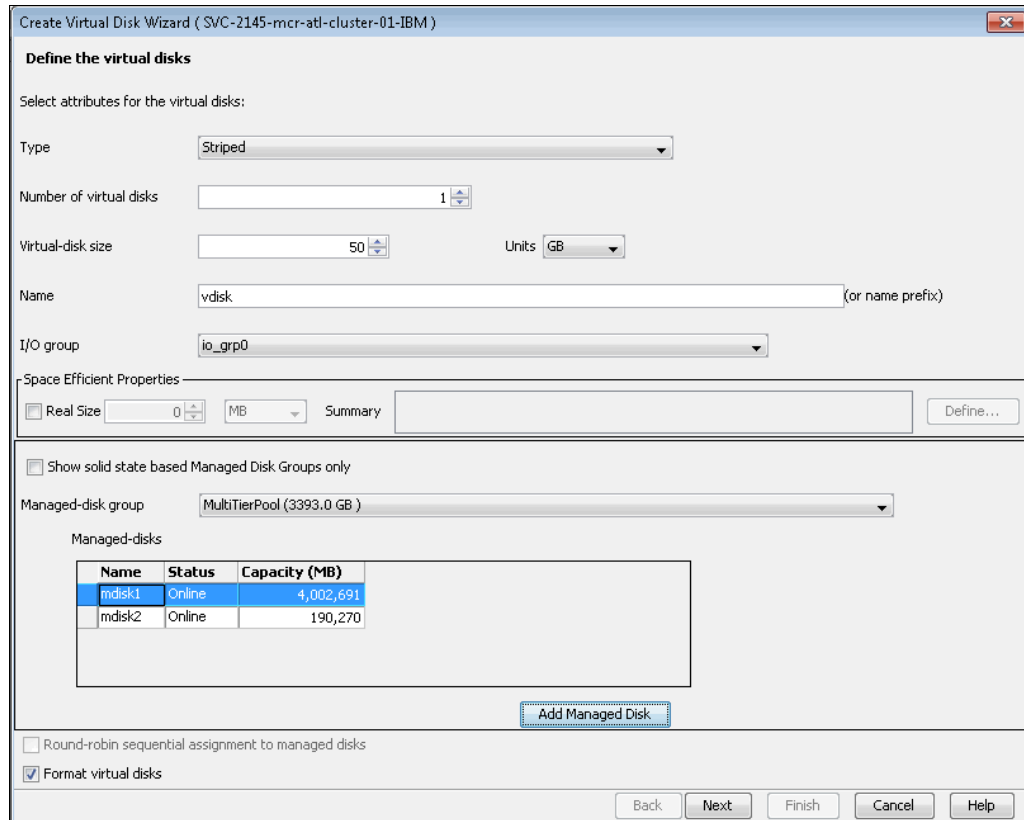

Figure 11-90 Virtual Disk wizard Creation
3. If you click **Create Virtual Disk**, the Create Virtual Disk wizard window opens, as shown in Figure 11-90. Use this window to create volumes and specify several options, such as size, name, thin provisioning, and add MDisks to an MDisk group.